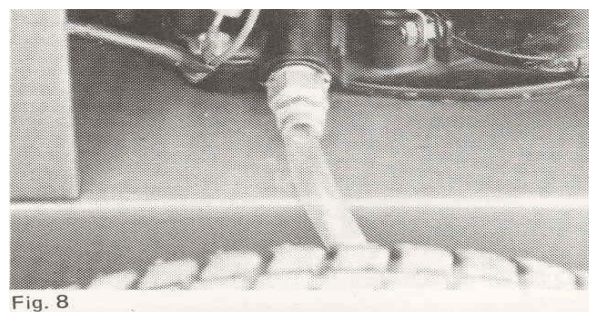

Fig. 8
- Fit drain tube to drain fitting; see Fig.8.